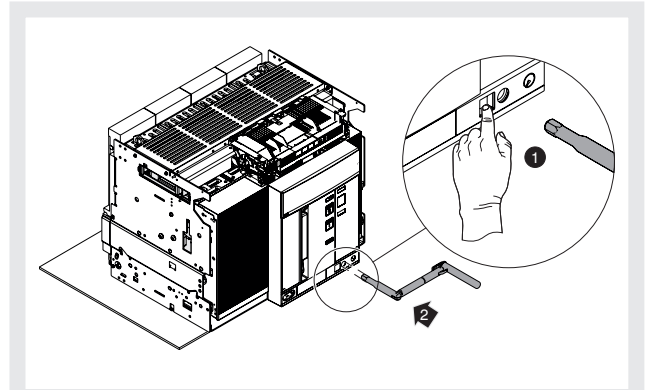

Figure 43
9. Press the lock pushbutton and insert the crank in the moving part. In this phase the moving part is still in **DISCONNECT** position. See Figure 43.